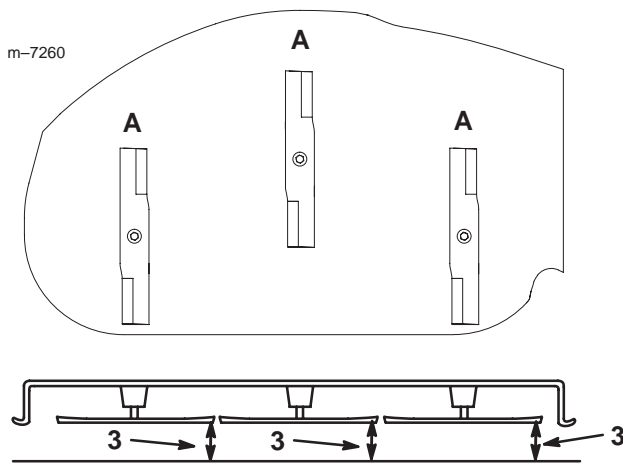

Figure 27
1. Rotate the blades until the ends face forward and backward (Fig. 27). Measure from a level surface to the cutting edge, position A, of the blades (Fig. 27). Note this dimension.